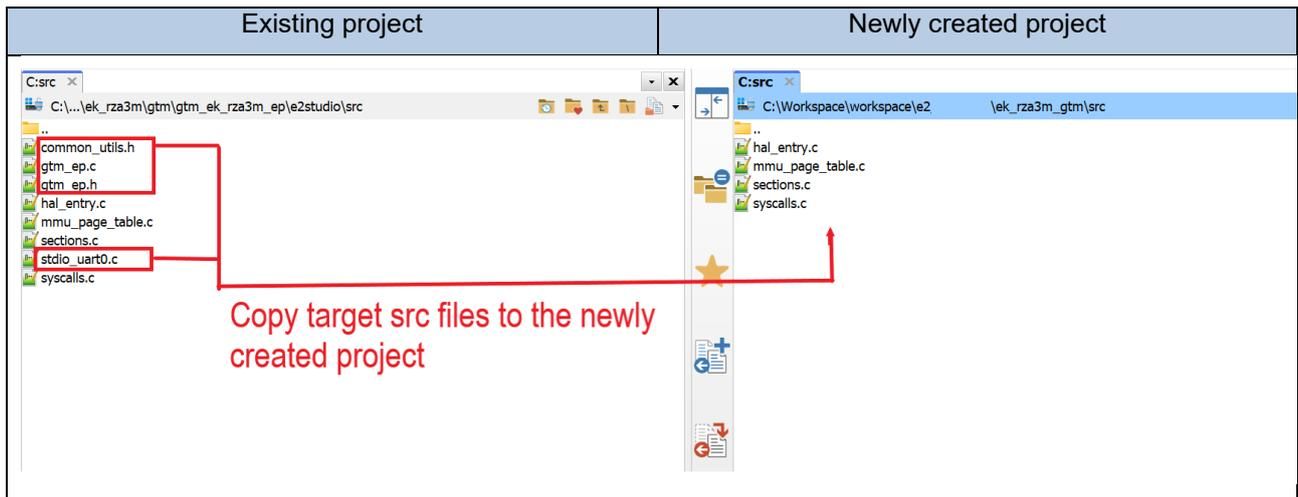

Figure 8. Copy existing source files to the new project
- Update the src folder by copying example code from the existing project’s src folder, excluding hal\_entry.c and all FSP-generated files, as shown in Figure 8. Do not replace FSP-generated files, as doing so may cause unexpected errors.